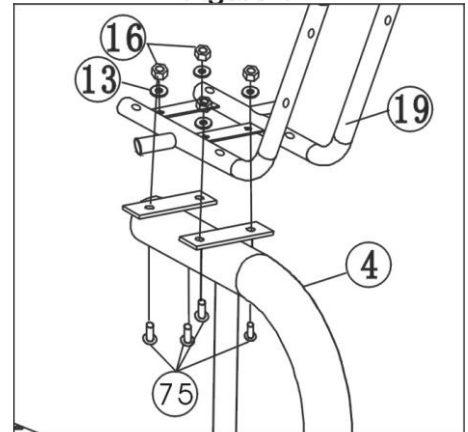

Figure 5
Montati cadrul de sa (19) cu 4 bolturi M8*16 Bolts (75), 4 saibe plate $\varphi 8$ (13) si 4 piulite de nailon M8 (16). (Vedeti figure 5)